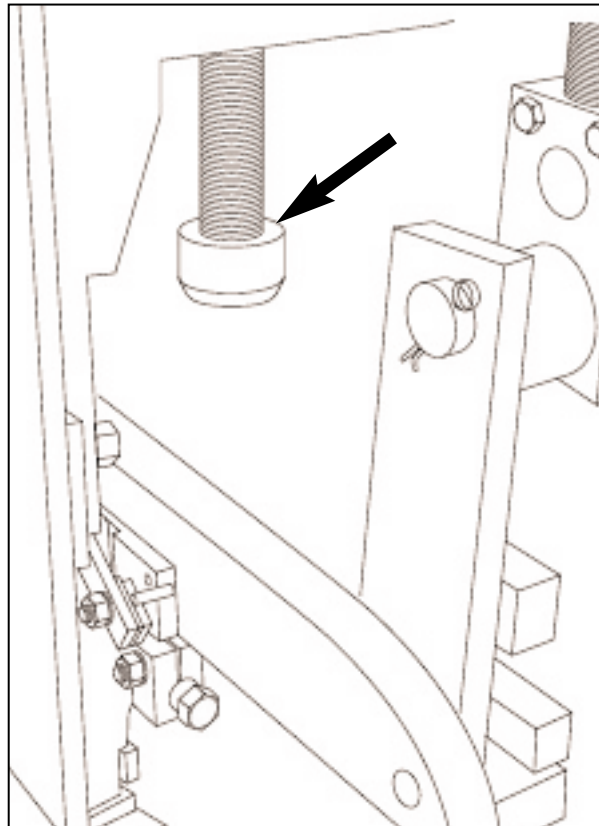

Figure 5.38 SHOCK ABSORBERS.
5.10.12 The machine is ready to run; final adjustment may be needed when production is started. The shock absorbers should be adjusted so they take equal load on each side (see figure 5.38).